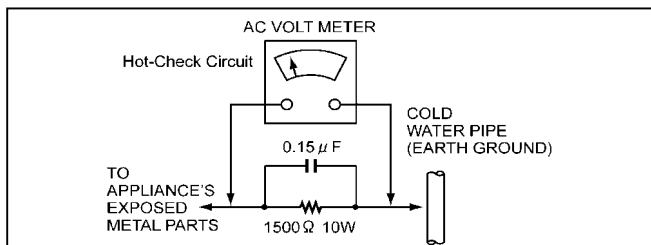

Figure1
LEAKAGE CURRENT HOT CHECK (See Figure 1)
2. Connect a 1.5KΩ, 10W resistor, in parallel with a 0.15μF capacitor, between each exposed metallic part on the set and a good earth ground such as a water pipe, as shown in Figure1.